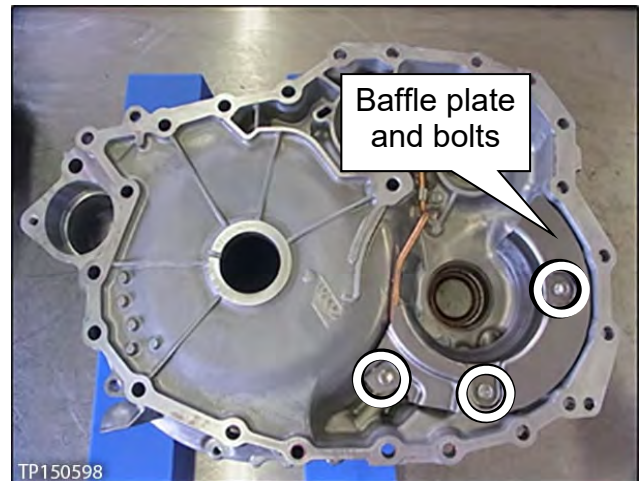

Figure 117
- a. Remove the three bolts, and then remove the baffle plate from the converter housing (Figure 117).